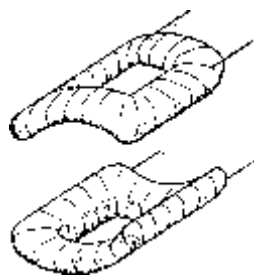

Figure 4
- **field coils** - nearly all universal motors are two pole machines and therefore have two field coils. See figure 4.